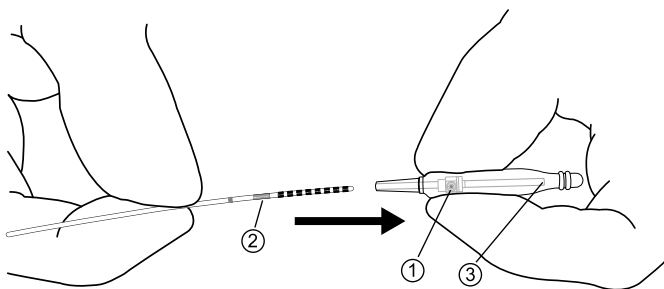

Figure 5. Connecting the lead cap to the lead.
- ① Setscrew connector block ③ Visual window to see full lead insertion
② Setscrew fixation ring
- Position the setscrew connector block over the setscrew fixation ring on the lead. Use the visual window on the lead cap to confirm that the lead is fully inserted (Figure 5).